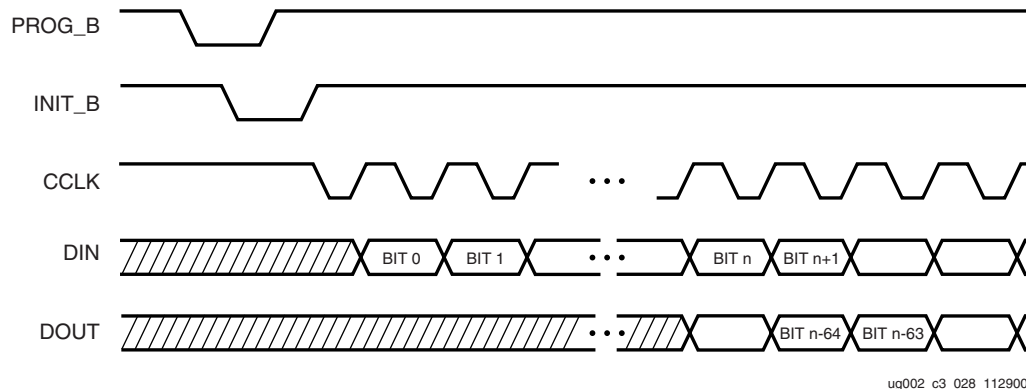

Figure 3-10: Serial Configuration Cloning Sequence
- For Slave configurations, a free running CCLK can be used, as shown in Figure 3-10.